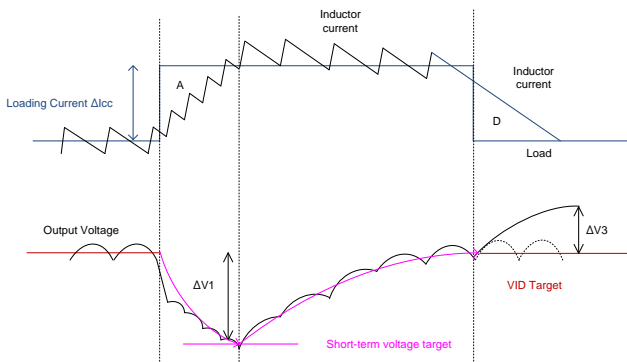

Figure 18. Zero Loadline with AC-Droop Control
Figure 18 shows the condition with AC-droop control. While loading occurs, controller temporarily changes VID target to short-term voltage target. Short-term voltage target is related to transient loading current ΔI_{CC} and can be represented as the following :
Where the V_{CS} is the current sensing signal from DCR sensing or SPS current sensing. For DCR sensing, the $V_{CS} = I_{CC_MAX} \times DCR$. The current gain (AI) can be set by Pin Setting of AI Gain. User can select AI gain according to Table 8 to set desired short term voltage target. The short-term voltage target reverts to VID target slowly after approximately 100 μ s. The short-term voltage target can help inductor current not to exceed loading current too much and then the ring back can be suppressed. Referring to Figure 18, the overshoot amplitude is reduced to only ΔV_3 .